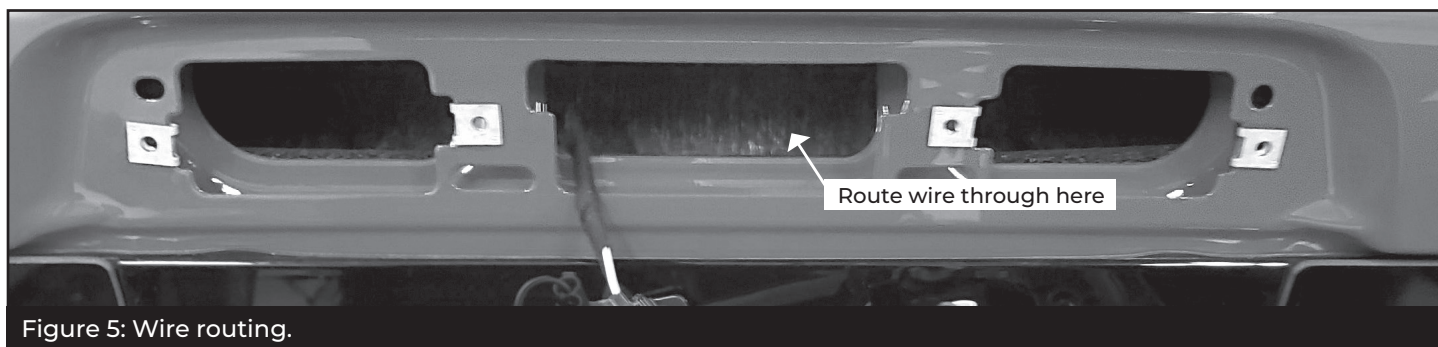

Figure 5: Wire routing.
- 9** Position the 3rd brake light on the bracket and reinstall the brake light taking care to reconnect the harness and not pinch the Hornet light cable. Installing and slightly tightening the two inside screws first aids in ease of installation. (Figure 5)